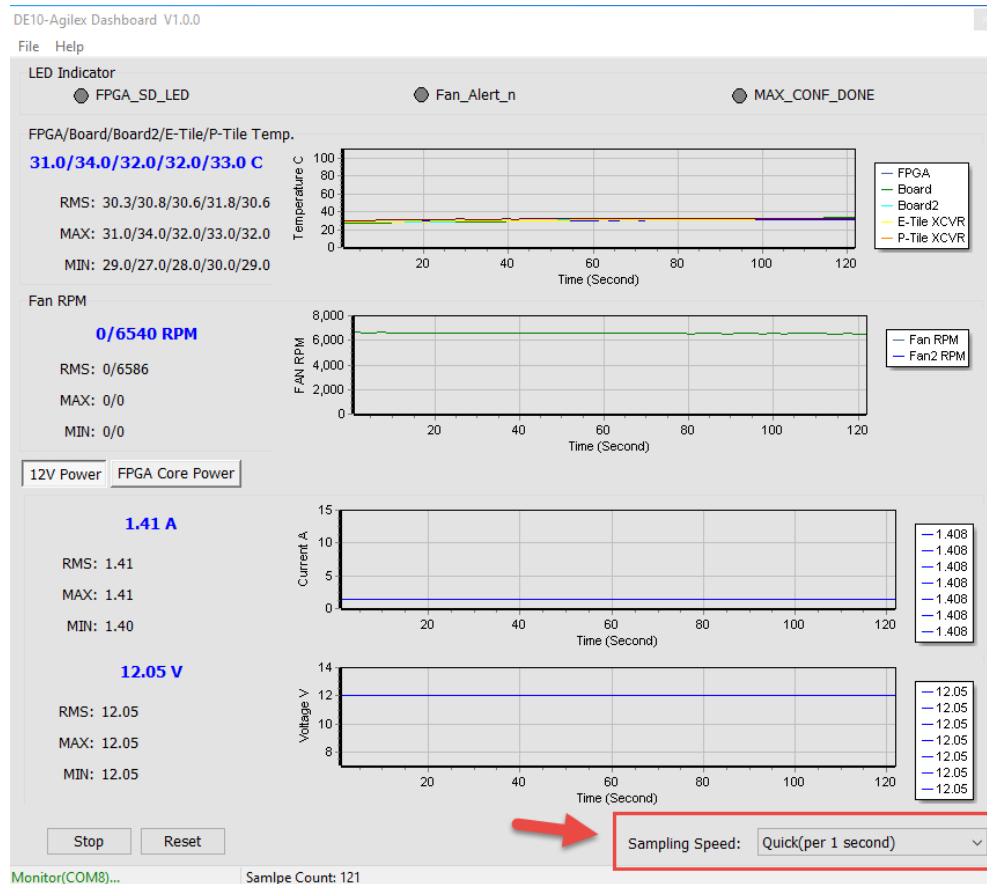
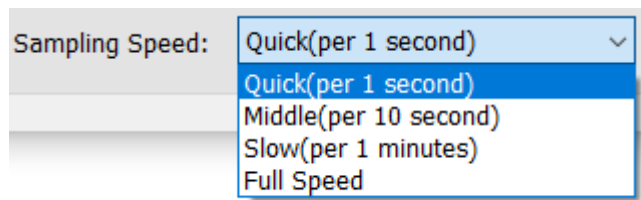

Figure 10-17 Sampling Speed section
Figure 10-18 Options of Sampling Speed
- **Sampling Speed:** It can change interval time that the Dashboard GUI sample the board status. Users can adjust it to 1s/10s/1min/Full Speed (0.1s) to sample the board status, as shown in **Figure 10-17** and **Figure 10-18**.